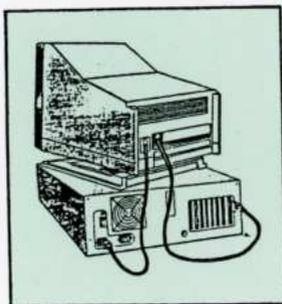

Fig. 5-4
9. Connect the monitor's signal cable to the adapter's 9-pin connector located at the back of system unit. Then connect the monitor's power cable to the socket just below the power selector switch. (see figure 5-4).